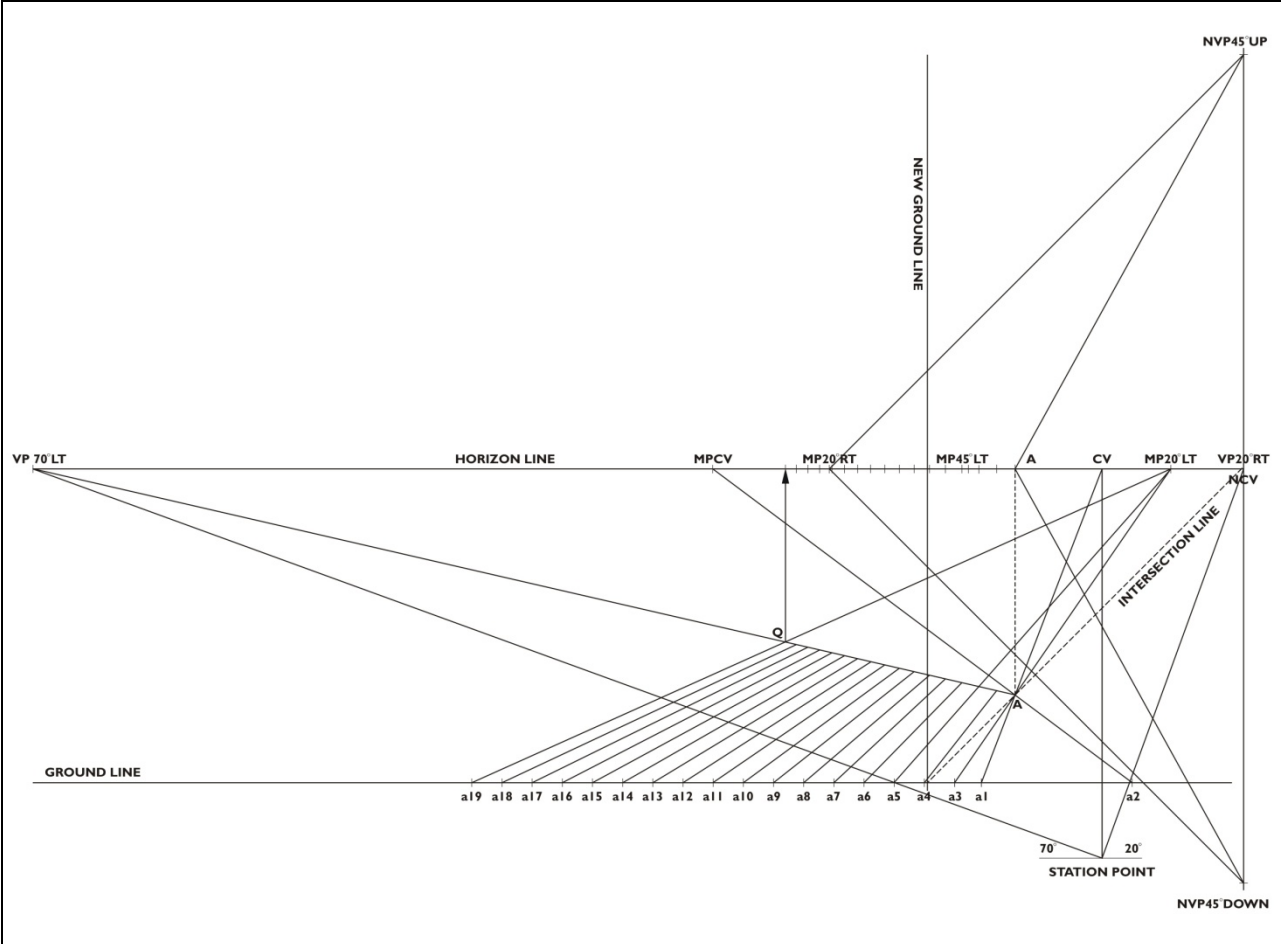

Figure 5.13 Construction of Three-Point Perspective Grid
- 1. Project both NVP 45° down and NVP 45° up to the new raised point (A) which has already been projected from the GL to the Horizon Line. These two lines are the leading edges of the grid. Refer to Figure 5.13.